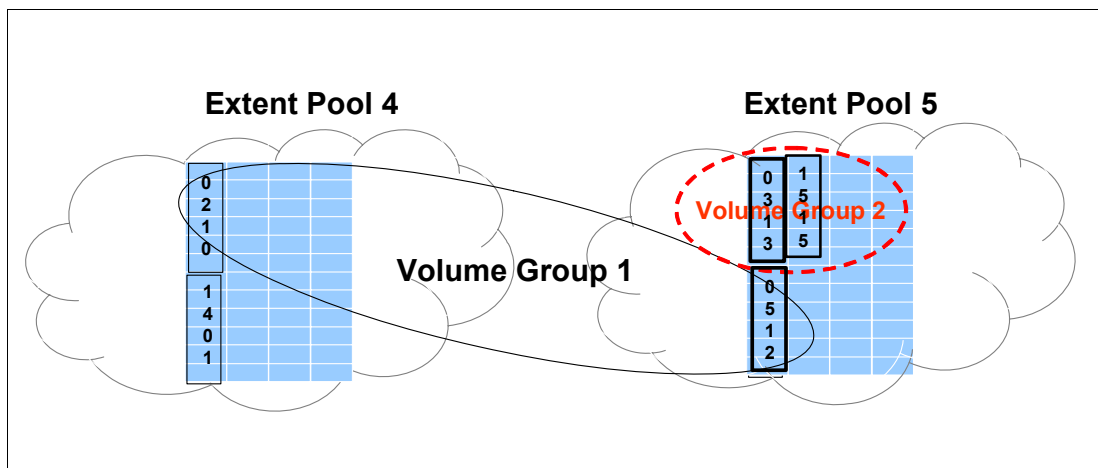

Figure 9-5 Example of relationship between LSS, extent pools and Volume Group
Figure 9-5 shows an example of the relationship between LSSs, extent pools, and volume groups: Extent Pool 4, consisting of two LUNs, LUNs 0210 and 1401, and Extent Pool 5, consisting of three LUNs, LUNs 0313, 0512, and 1515.
- ▶ Volumes from different LSSs and different extent pools can be in one volume group as shown in Figure 9-5. Volume Group 1 consists of Extent Pool 4, LUN 0210 and Extent Pool 5 LUN 0512.
- ▶ Volumes from the same LSS or the same extent pool can be in different volume groups. For example, in Figure 9-5, LUN 0512 in Extent Pool 5 and LUN 0313 in Extent Pool 5 both reside in the same extent pool, but LUN 0512 is in Volume Group 1 and LUN 0313 is in Volume Group 2.